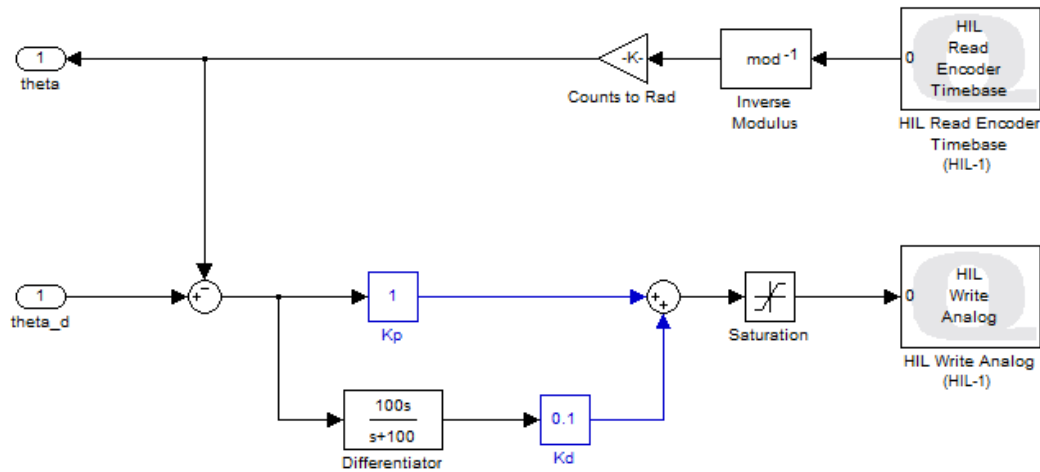

Figure 2.1: QDS steering control subsystem
2. Open the Steering Dynamics subsystem shown in Figure 2.1.